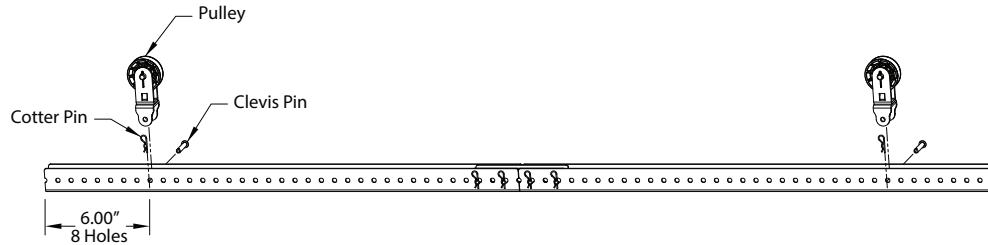

fig 1.2
5. From either end of the frame (made up of the joined modular frame pieces from the previous step), count eight holes in from the end and place a pulley on the frame and secure it with a cotter and clevis pin. (fig 1.2)